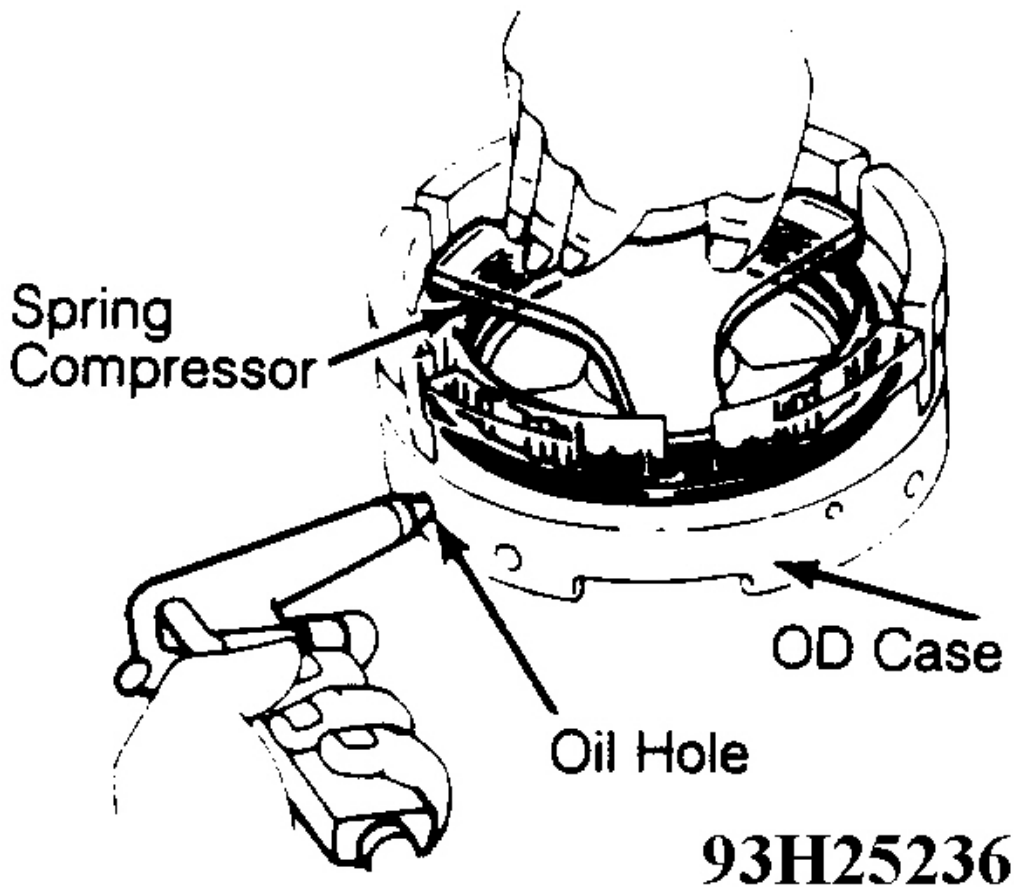

Fig. 23: Removing OD Brake Piston
1. Using needle nose pliers, remove 3 ring retainers from oil holes on OD case. Place OD case on rear clutch. Using Measure Terminal (09350-06120) and dial indicator, measure piston stroke by applying compressed air. Piston stroke should be .0492-.0728" (1.250-1.850 mm). If piston stroke is greater than specified, inspect the discs. See **Fig. 23** .
3. Place return spring on brake piston. Place Spring Compressor (09350-06020) on return spring. Hold spring compressor so it does not slant. Apply compressed air into oil hole of OD case to remove brake piston. See **Fig. 23** . Remove 2 "O" rings from OD case. Remove 2 oil seal rings from OD case.